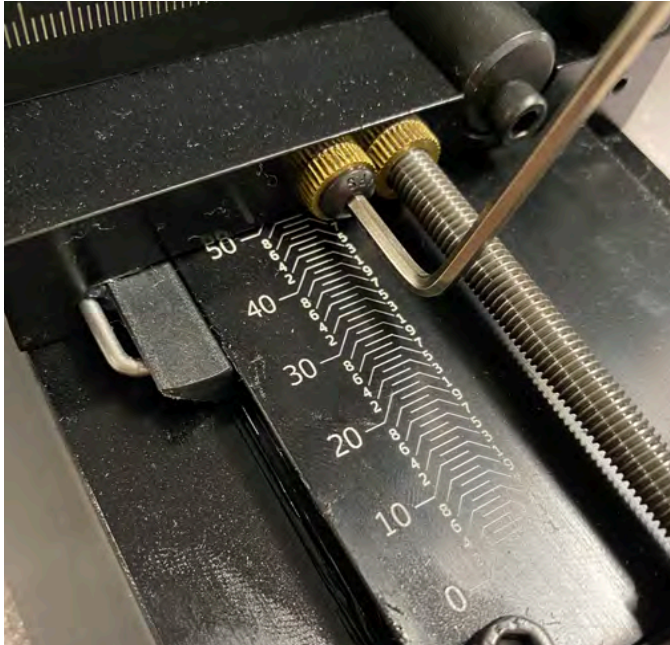

FIGURE 4—Shows the 3/32" hex key seated in the 8-32 locking screw that holds the backlash lock in place.
D. Remove the 8-32 locking screw and the anti-backlash lock (see Figure 4).